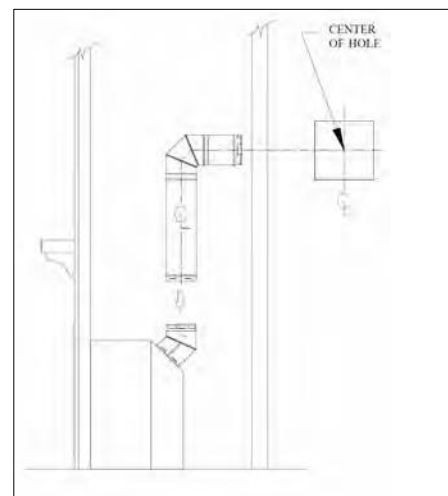

Figure 35: Horizontal Venting and Cut Away.
Step 3. With the adaptor and pipe attached to the fireplace, slide the fireplace into its correct location, and mark the wall for a square hole of the appropriate size. Use 11"x11" (280x280mm) square hole for 8" x 5" pipe. The center of the square hole should line up with the centerline of the horizontal pipe, as shown in Figure 35. Cut and frame the square hole in the exterior wall where the vent will be terminated. If the wall being penetrated is constructed of non-combustible material, i.e. masonry block or concrete, a hole with zero clearance to the pipe is acceptable.